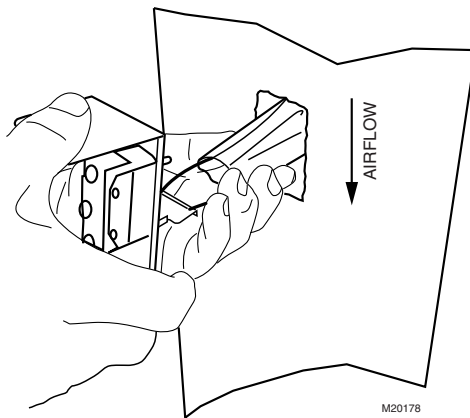

Fig. 10. Inserting sail switch in direction of airflow.
5. Press together the sides of the wire loop. Insert the sail into the duct. (When in the Off position, the sail should point into the direction of airflow as shown in Fig.10.)